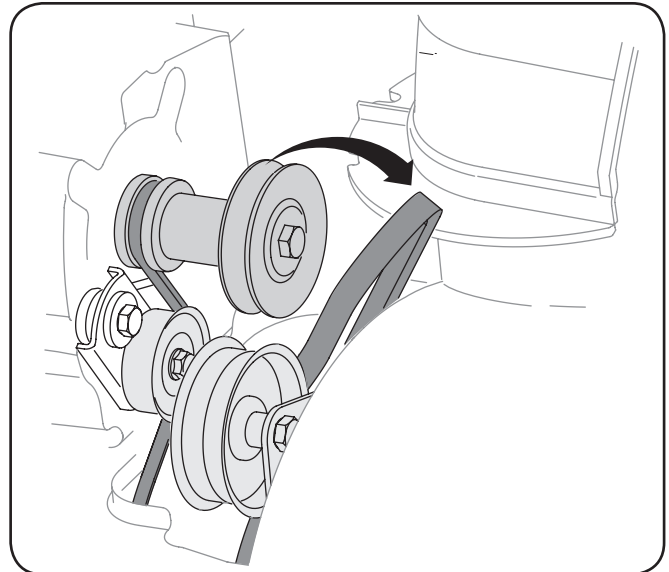

Fig. 7-3
4. Roll the auger belt off the engine pulley. See Fig. 7-3.